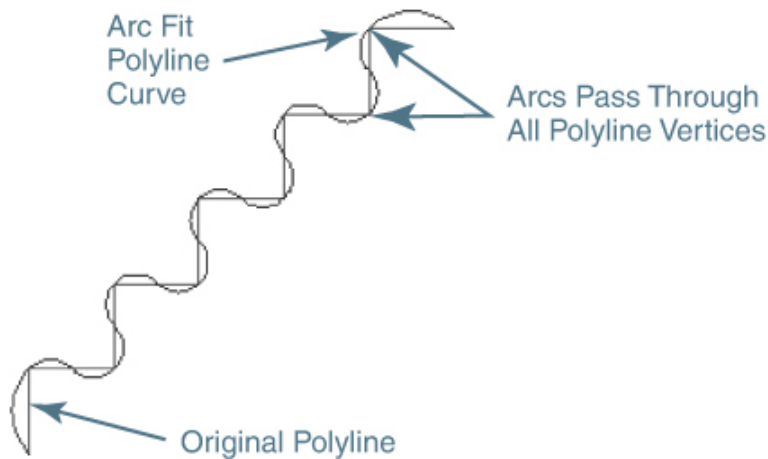

Figure 9-42
The **Fit** option creates an arc fit polyline. An arc fit polyline is a smooth curve consisting of arcs joining each pair of vertex points with the curve passing through all vertices of the polyline, as shown in Figure 9-42.
- 2 Create an arc fit polyline similar to the polyline shown in Figure 9-42 using the **PEDIT** command and the **Fit** option.